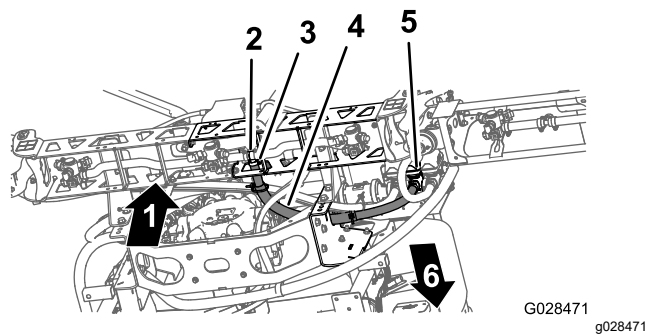

Figure 42
- 1. Route the center boom-section hose as shown in Figure 42.
2. Install the boom section hose over the barbed T-fitting at the center boom section and secure the hose with a hose clamp (Figure 42).